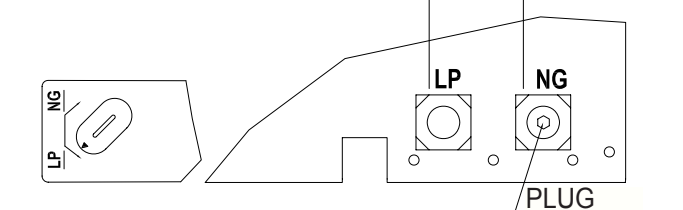

Fig. 16
2. For PROPANE GAS, press in knob using a flat screwdriver with a blade the width of a quarter and turn knob counterclockwise ↻ until the knob locks into the LP position (see Fig. 16). Fuel selection device must be locked into either the LP position or the NG position.